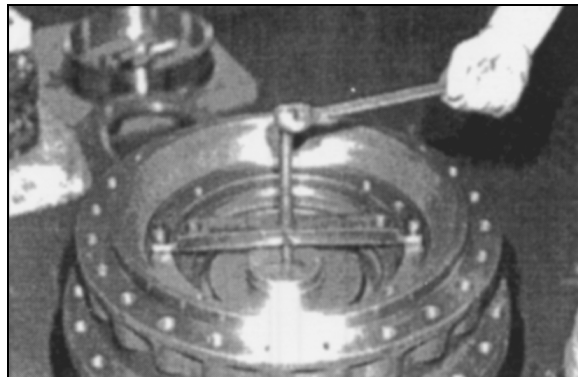

Figure 120
29. Install jig to hub and insert spring retainer disc under left side of retaining ring. Figure 120.